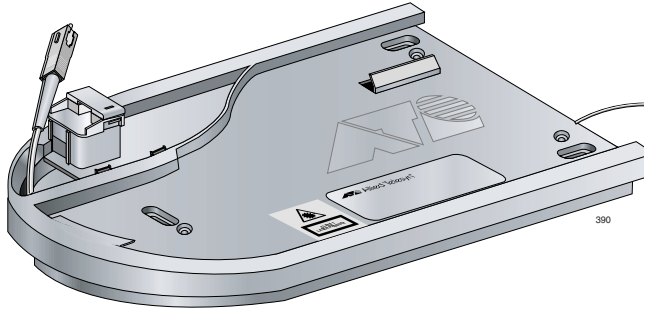

Figure 14. Aligning the Screw Holes with the Posts
10. Mount the cover over the base, aligning the screw holes with the posts, as shown in Figure 14.